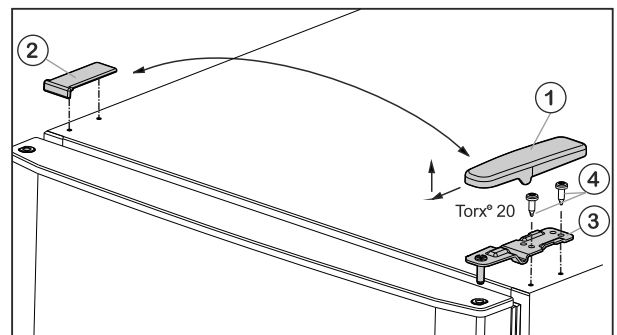

Fig. 6
- ▶ Pull the cover Fig. 6 (1) forwards and upwards.
- ▶ Lift off the cover Fig. 6 (2).
- ▶ Unscrew top bearing block *Fig. 6 (3)* (2x Torx® 20) *Fig. 6 (4)* and lift off in upward direction.
- ▶ Install the upper bearing block *Fig. 6 (3)* on the new hinge side and in the door.
- ▶ Screw in the upper bearing block **tightly (with 4 Nm)** (2x Torx® 20) *Fig. 6 (4)*. Use a cordless screwdriver if necessary.
- ▶ Slide on the cover *Fig. 6 (1)* on the opposite side from the outside and snap it into place.
- ▶ Slide on the cover *Fig. 6 (2)* on the opposite side from above until it snaps into place.